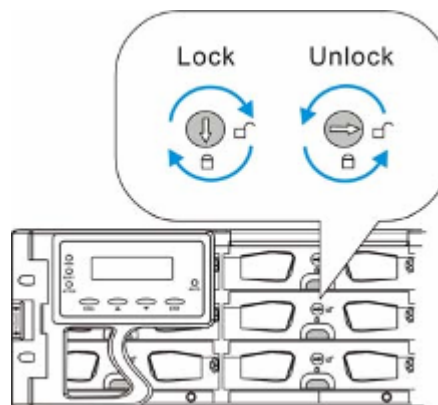

Figure 5-22: Drive Tray Bezel Lock Rotation
Step 2. Make sure the rotary bezel lock is turned to the unlocked position, (See *Figure 5-22*) i.e., the groove on its face is in a horizontal orientation. Use a flathead screwdriver to turn the rotary lock to the unlocked orientation.